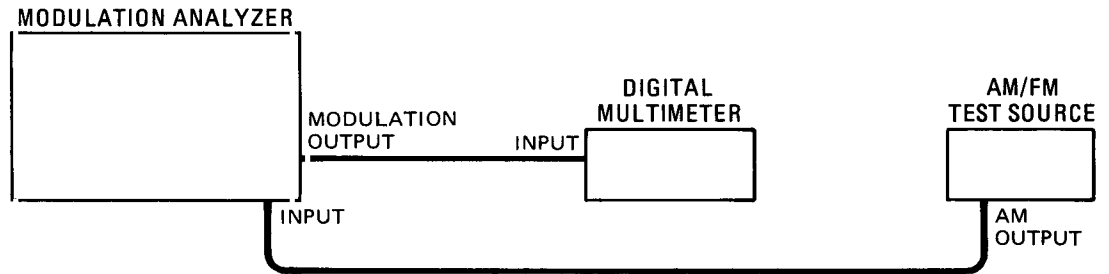

Figure 4-2. Modulation Analyzer Residual AM Verification Test Setup
- a. Connect the modulation output of the modulation analyzer to the input of the digital multimeter and the AM output of the AM/FM test source to the input of the modulation analyzer as shown in Figure 4-2. Nothing should be connected to the audio input of the AM/FM test source.